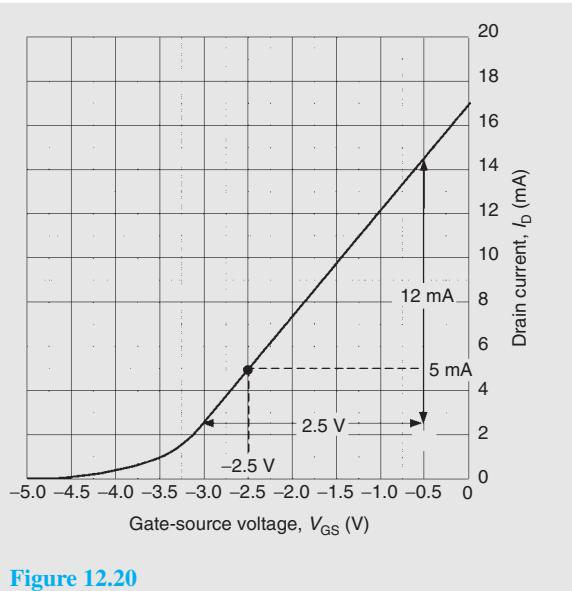

Figure 12.20
Problem 8. Figure 12.20 shows the mutual characteristic for a junction gate field effect transistor. When the gate-source voltage is -2.5 V, determine (a) the value of drain current, (b) the dynamic value of forward transconductance.
- (a) From Fig. 12.20, when $V_{GS} = -2.5$ V, the **drain current, $I_D = 5$ mA**
(b) From Fig. 12.20